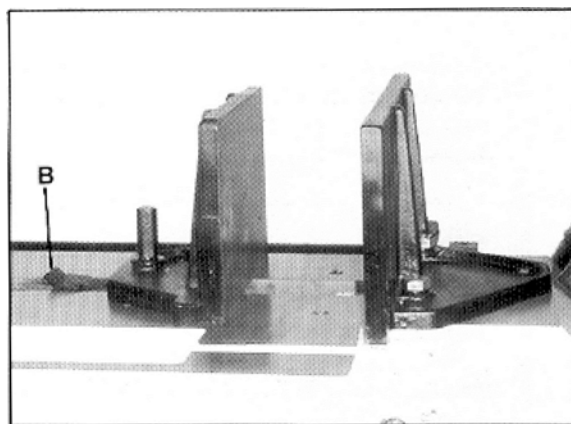

Figure 16
2. Move rack block (B, Figure 16) to desired location by sliding along the bed. Place the rack block onto the rack.